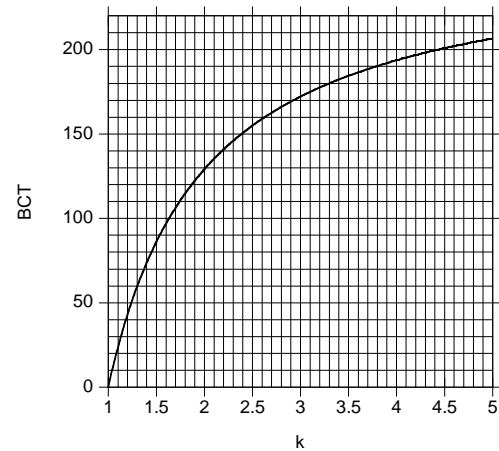

Figure 6: Relation between the k Ratio and the Optimum BCT to Recover Linearity
Equation (2) is plotted in Figure 6.